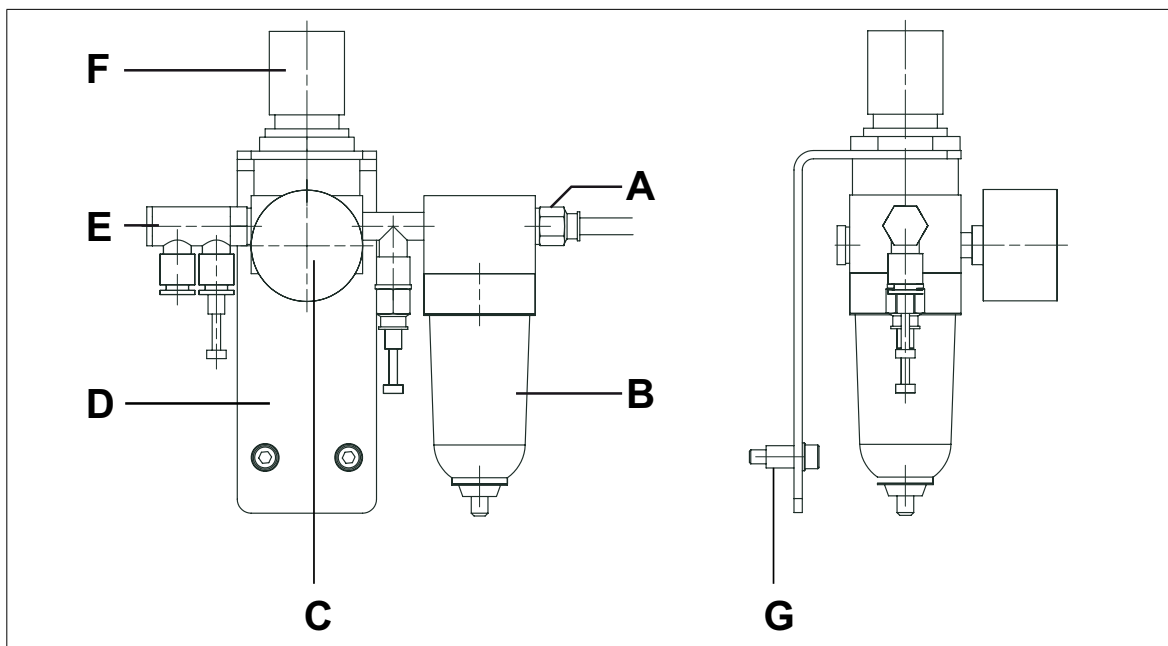

Figure 10.1.1/1: Spray-air adapter kit in overview
4. Connect the compressed air connections of the heated hoses to the plug nipples ("E" in Figure 10.1.1/1). If only one heated hose will be connected, then the remaining plug nipple must be sealed with a blind plug.
5. Connect the quick-release fastener of the compressed air line to nipple "A" (see Figure 10.1.1/1).
The adjusting wheel "F" is used to set the working pressure (see Figure 10.1.1/1). The adjustment range is 0 to 3.5 bar.